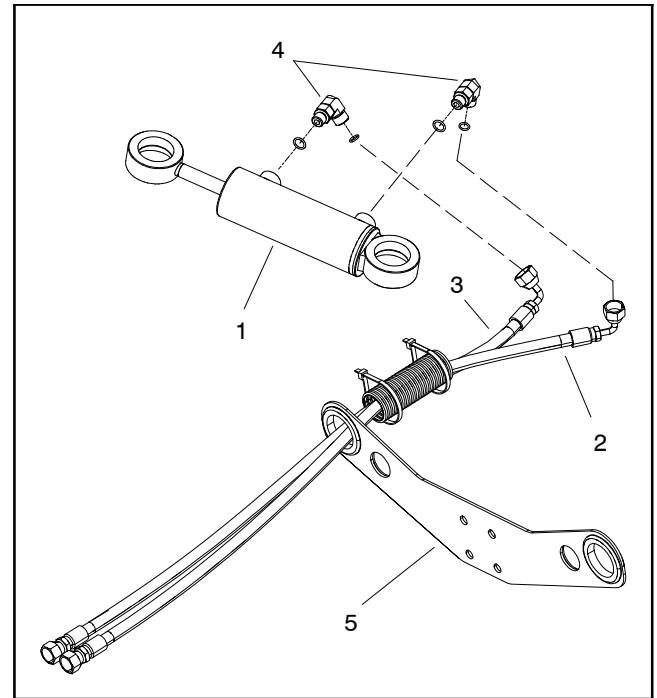

Figure 84
4. Remove hydraulic hoses from steering cylinder (Fig. 84).